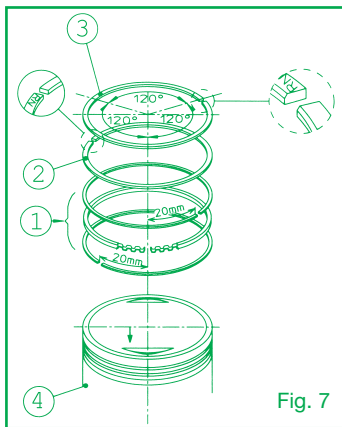

Fig. 7
- Fit the scraper ring expander in the special piston groove, fit the lower scraper ring element and then the upper scraper ring element and complete the scraper ring assembly (Fig. 7 - Part. 1).
- Fit the second piston ring with the N printing turned towards the piston upper part as indicated in Fig. 7 - Part. 2.
- Fit the first compression piston ring with the N printing turned towards the piston upper part as indicated in Fig. 7 - Part 3.
- Position the piston rings openings as shown in Fig. 7.
- Position the piston on the connecting rod and insert the new gudgeon pin. Make sure that the arrow punched on the piston crown is turned towards the exhaust side (Fig. 7 - Part 4) or that the "IN" and "EX" references are turned towards the intake side (IN) and exhaust side "EX", respectively.
- Recheck that the piston rings openings are positioned as shown in Fig. 7.